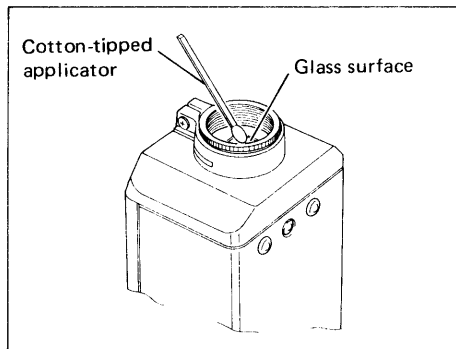

Fig. 1
- * If the faceplate of the solid-state imaging device becomes dirty, do not wipe it with a dry cloth or a paper to avoid possible damage to the faceplate. Moreover, static electricity caused by cleaning can cause damage to the imaging device. When cleaning the sensor, breathe on the faceplate until being clouded, then clean it with a cotten-tipped applicator gently once in a second as shown in Fig. 1.